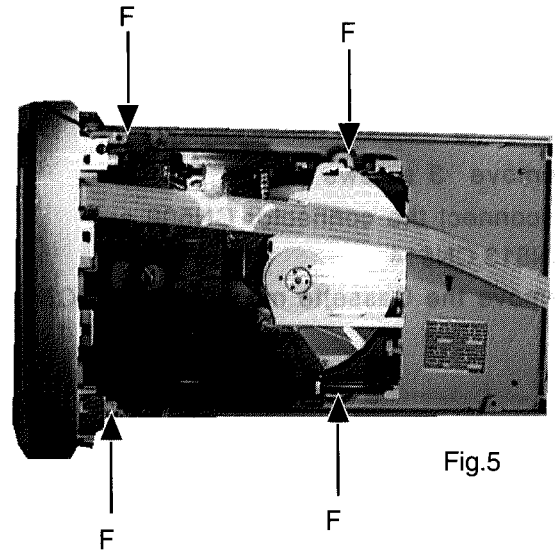

Fig.5
- 2.Remove 4 screws (F)fastening the CD changer mech.ass'y (Fig.5).